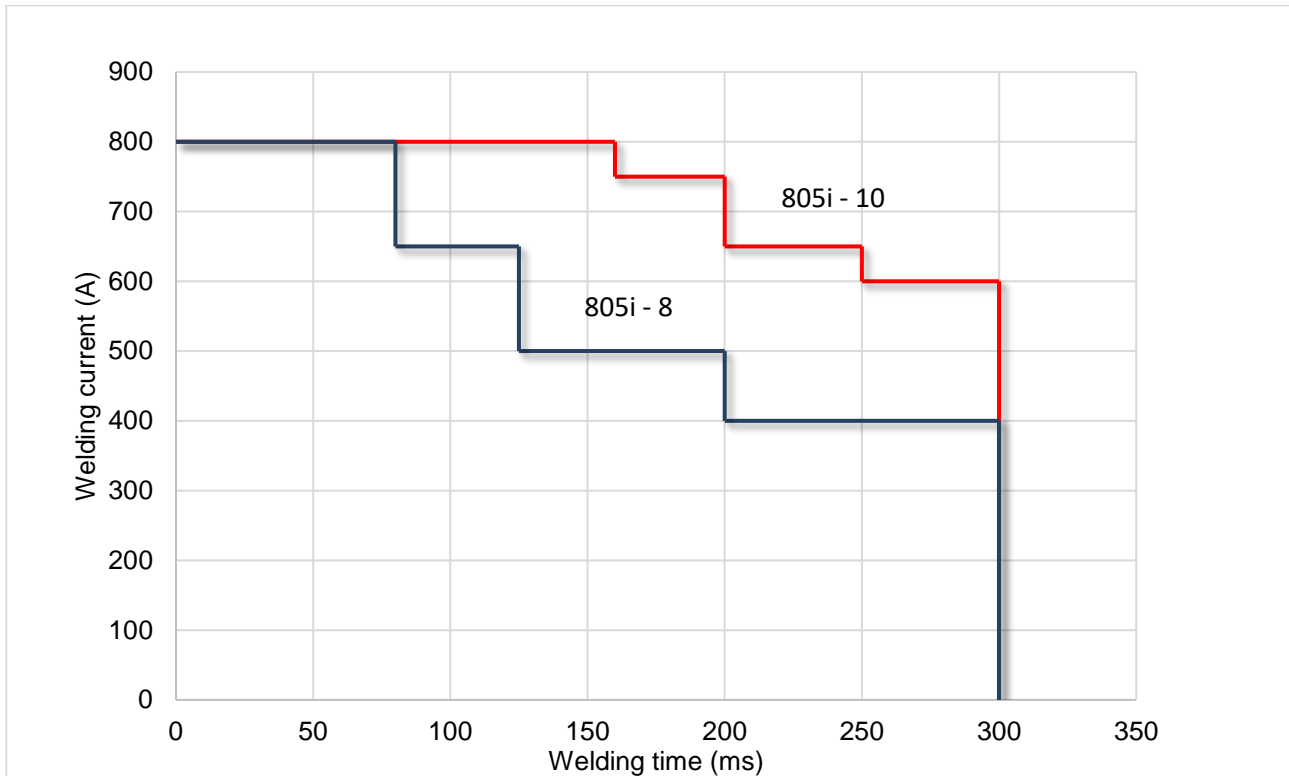

Figure 2: Power ranges 805i-8 and 805i-10
In stud welding, lift and protrusion are important parameters. In most cases they can be selected to fit stud diameters, according to figure 2. The position of the weld or the kind of surface on the workpiece may necessitate some adjustments. In such cases, optimal settings should be obtained through test welds.
The settings given in figure 2 have been tested for welds on **clean metallic surfaces** and standard type studs in **downhand position**. The decisive parameter is the actual diameter at the welding end of the stud, not the nominal diameter. Under different conditions (other welding position, or oily, scaly or primer-coated surfaces) the optimal settings must be determined by test welds. With difficult surfaces, it may be necessary to considerably increase lift and welding time, and to reduce the welding current. When welding in a horizontal position, it is recommended to select higher current, protrusion and plunging speed than the given settings, and at the same time shorter cycles and lift. Please note that at the lower end of the welding range of large appliances it may be necessary to select values higher than those listed in the chart. This is caused by the relatively long phase for building up the current, which means that for a considerable part of the welding cycle the peak current is not yet reached. This must be compensated by lengthening the welding cycle or selecting a higher current.
9. Slide the footpiece with the legs in the damping guides until the correct protrusion is reached, see figure 2. Figure 4 shows a diagram of the supporting device.
10. **Setting of the lift (except SK 14, SK 14 short und SK 15):** Open the rear cap of the gun. Behind it there is an adapter screw for adjusting the lift in steps of 0.5 mm. (figure 5). **Do not set any in-between values!** Select lift settings according to figure 2.
The lift can only be adjusted in 0.5 mm steps. **Do not try to set any intermediate values!** Follow the instructions according to figure 2 when setting the lift.